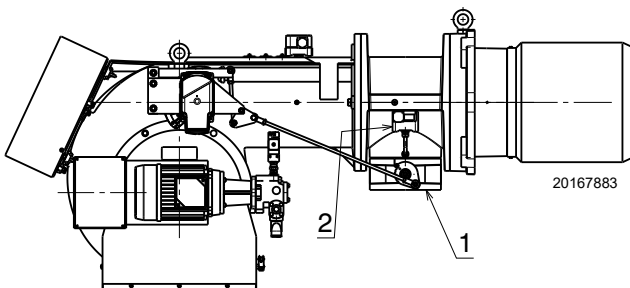

Fig. 23
The gas train is prearranged to be connected to the burner by the flange 1)(Fig. 23).
Gas pressure measured at the test point 2)(Fig. 23), with:
- subtract the combustion chamber pressure from the gas pressure measured at test point 2)(Fig. 23).
To calculate the required gas pressure at test point 2)(Fig. 23), set the MAX output required from the burner operation:
- Read the pressure at the test point 2)(Fig. 23).
Pressure required at test point 2)(Fig. 23).
pressure required at test point 2)(Fig. 23).